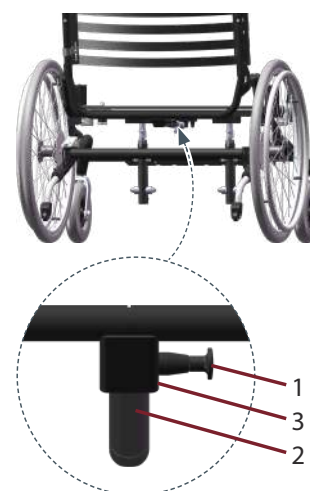
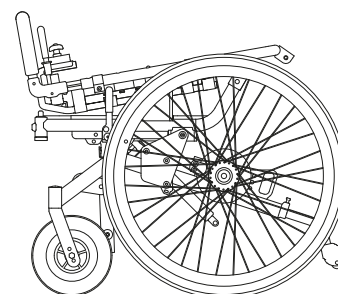

Figure 34. Locking pin for folding back rest
Figure 35. Folded wheelchair
- Grasp the push bar with one hand and pull the locking pin, (1 in Figure 34). The gas spring (2) will then drop down from the mount (3) and the back can be folded forward against the seat, see Figure 35.
- Pull the locking pin (1), and fit the gas spring in the mount.
- Release the locking pin and see that it passes through the gas spring mounting hole and both plates of the bracket (3 in Figure 34).
- Make sure the locking pin (1) goes fully through the bracket (Figure 34).